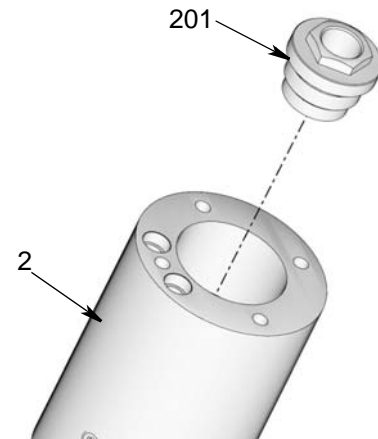

FIG. 34
22. Remove piston seal (214) from piston (213). Discard piston seal (214) and pins (217). New replacement parts are included in the kit.
23. Visually inspect rod sections and the inside surface of pump cylinder (204) to verify they are not bent or damaged following disassembly. A pump with bent and/or damaged parts will not hold pressure and/or operate efficiently.
24. Separate spacer cylinder (205) from pump adapter (2) using a strap wrench to loosen cylinder. When cylinder (205) is loose enough, use your hands to unscrew and remove it from the pump.
25. Remove gasket seal (206) from inside pump adapter (2) if it did not come out with the spacer cylinder (205). Discard gasket seal. Use gasket seal included in the kit for reassembly.
26. Use a socket to loosen hex nut (201) and remove it from the pump adapter (2) (FIG. 34).